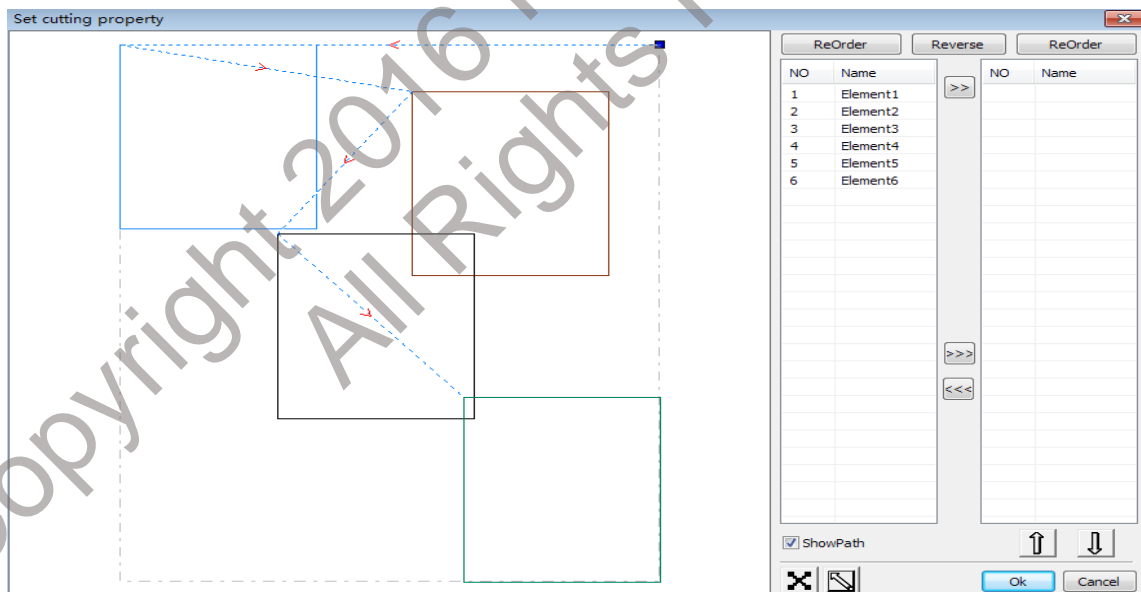

Figure 27
RDWorks provides users a convenient tool for the manual sorting of graphic objects. To make use of this tool, the user should Click on menu **[Edit]** -> **[Set cutting property]**, which will invoke the cutting property dialog box (**Figure 27**). This dialog box can be used for manual sorting and the setting of cutting points and cutting order.
**Manual sort:** By selecting the "Lock" icon,  (see **Figure 27**) the user can switch the current status of the operation between view and edit. The user can then highlight or click the objects in the object display area. After selecting an object, the user should select the  icon to have the graphics redirected to another list where they can be re-ordered. Continue selecting and pressing the  icon to move another object to the right hand column to re-order the laser sequences. A sequence of operations is then performed on the objects before the selection is completed. To change the direction of graphic processing, the user should first select the targeted graphic in the graphics display area or in the list, and then click  the Reverse button. If the work area contains vector and BMP images, no matter where you place the BMPs in the processing order, they will ALWAYS be processed before vector objects. The order of objects may be raised or lowered by using the  and  arrows when an object in the right hand column is highlighted.